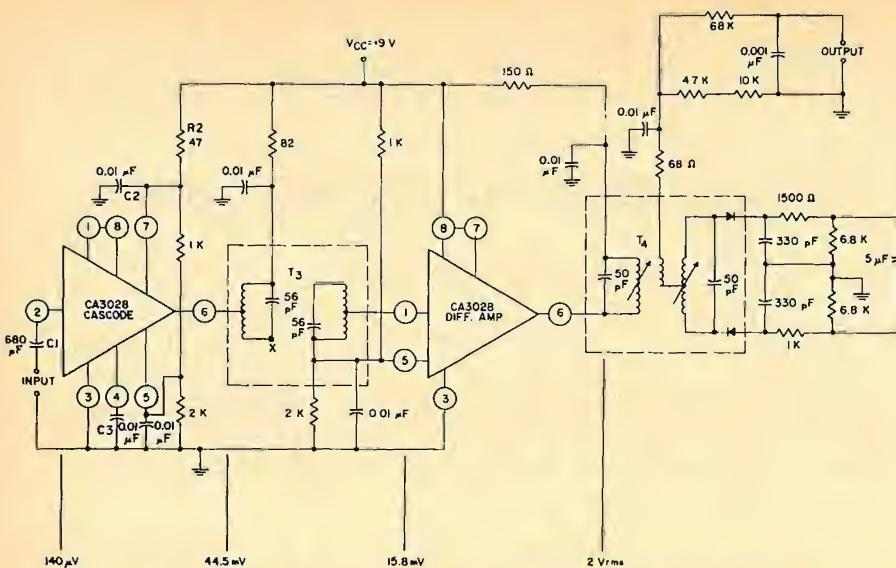
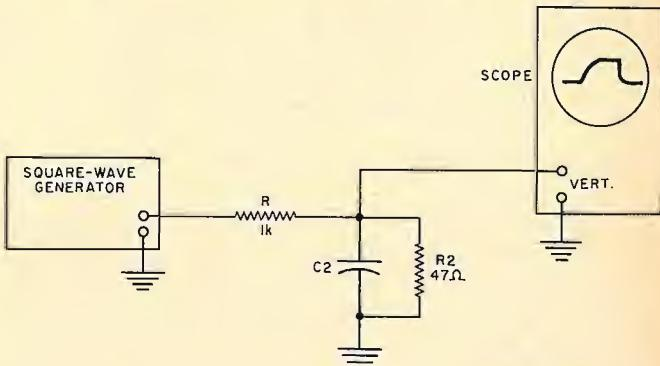

Fig. 1. A typical 10.7-MHz i.f. strip employing a pair of integrated circuits.
Fig. 6. Test-equipment setup to check capacitor C2 in Fig. 1.
Fig. 1. (A) An unbiased tape is inherently non-linear. (B) When a.c. bias is added in various amounts to the d.c. (signal), the curves are as shown. In this case, the d.c. remains while the a.c. decreases. (C) Same as (B) except that both d.c. and a.c. decrease, simulating actual tape recorder. (D) Output rises with increasing bias to a peak then falls off. (E) Output vs bias current at a number of frequencies using unequalized (flux-sensitive) system, showing the shift required in the bias for maximum high-frequency sensitivity.
Fig. 1 shows two IC's in a 10.7-MHz i.f. strip, a typical application in an FM tuner or, with a frequency change, in a TV i.f. section. It would be very difficult, if not impossible, to troubleshoot this circuit without removing components. Yet we will demonstrate that all parts can be tested without unsoldering any connections, without damaging the IC's, and with reasonable speed. The basic philosophy in any IC troubleshooting technique is to assume that the IC's are good and check all external components first.
Returning to the problem of troubleshooting the i.f. circuit of Fig. 1, we use the test arrangement of Fig. 6 with $R = 1000$ ohms. The risetime is measured as $22 \mu s$ and the value of C_2 is therefore $0.01 \mu F$. The peak amplitude of the waveform in this case would be approximately $50 mV$ for a one-volt peak input. This is the result of the approximate 1:20 ratio between R_2 and R . Figs. 3A and 3B show actual scope traces for this test. Fig. 3A is the applied square wave and Fig. 3B is the voltage across C_2 .